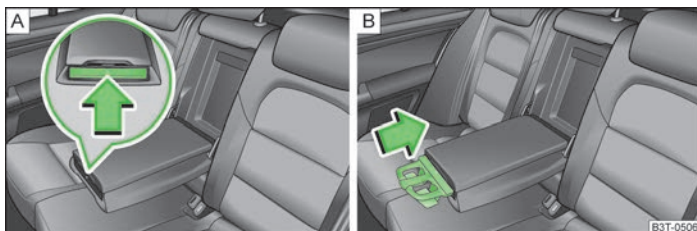

Fig. 83 Rear armrest: Cup holder/insert cup holder
- Press on the front end of the armrest in the direction of the arrow » Fig. 83 - **A**, the cup holder comes out.
- To slide the cup holder in again, press the middle part of the cup holder » Fig. 83 - **B** and slide it into the armrest.